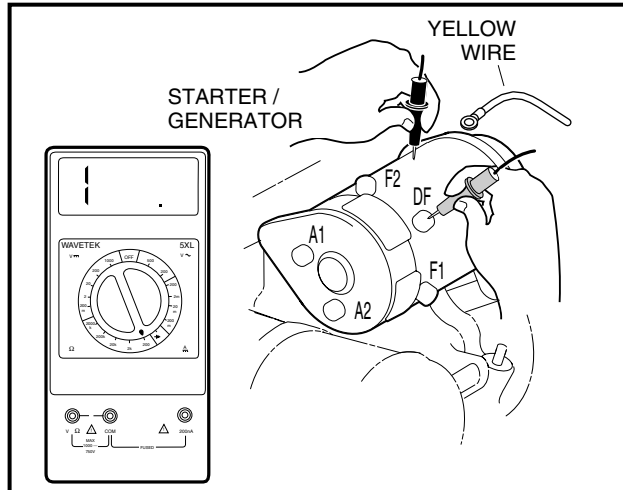

Figure 11-34 Check Starter Terminal Continuity
3. Disconnect the wires from all the terminals on the starter/generator. Then place the black (–) probe of a multimeter, set to  $\Omega$  (ohms), on the starter/generator housing (scratch through the finish to ensure a good ground). While holding the black probe against the housing, place the red (+) probe (one at a time) on the A1, A2, F1, F2 and DF terminals respectively (**Figure 11-34, Page 11-31**). The readings should be no continuity. If the readings are incorrect, the starter/generator will need to be removed from the vehicle and disassembled by a qualified technician. **See Starter/Generator Removal, Section 12, Page 12-2.**